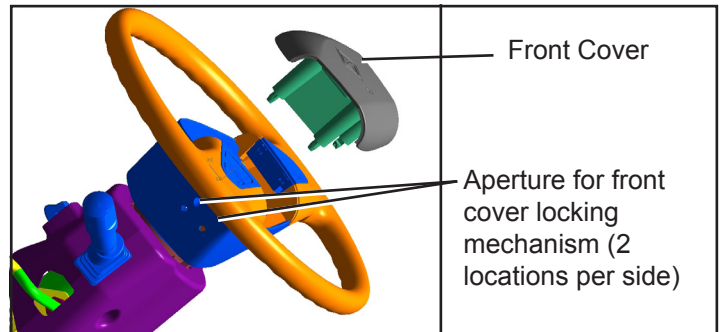

Figure 3 Releasing and Removing the Front Cover
3. Remove the front cover of the steering wheel by inserting a Phillips head screwdriver into each of the four apertures (two per side) as shown in Figure 3. When the latching mechanism is released, pull the front cover forward.